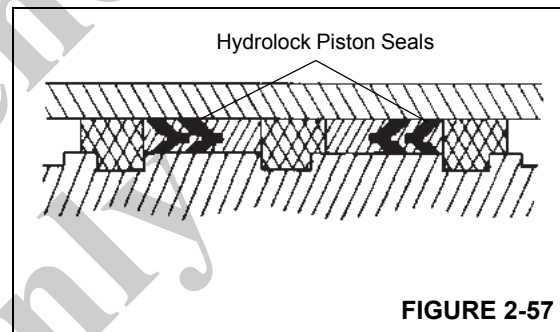

FIGURE 2-57
4. Install one replacement hydrolock seal on the outside of the piston Figure 2-57. Leave the other hydrolock seal off for now so there is still access to the piston's set screw hole.